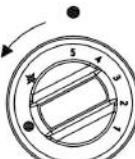

Fig. 8
- When releasing the knob, the pilot burner must remain lit. If it goes out, repeat the above operation. To light the oven burner, with the pilot burner lit, press the knob again and turn it to position "5" (Fig. 8).